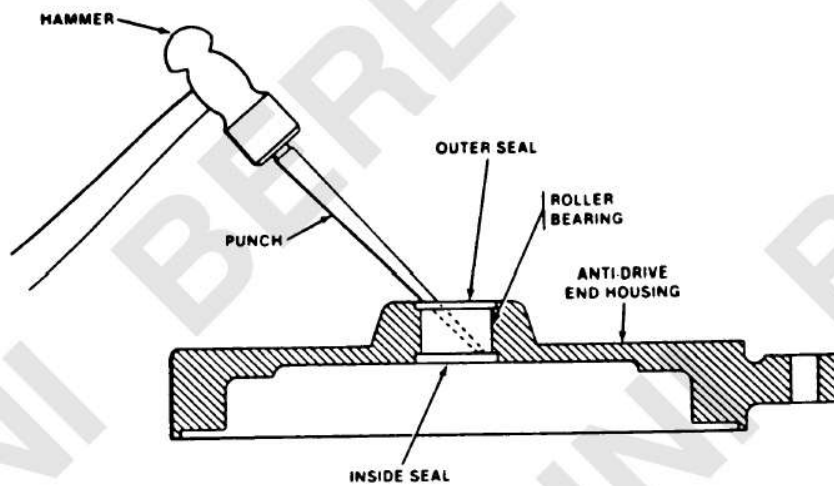

Figure 3-4. Inside Seal Removal from Anti-Drive End Housing.
(a) place anti-drive end housing (9) on workbench. Use a 3/8 inch punch to knock out inside seal (10) according to figure 3-4. Discard seal.